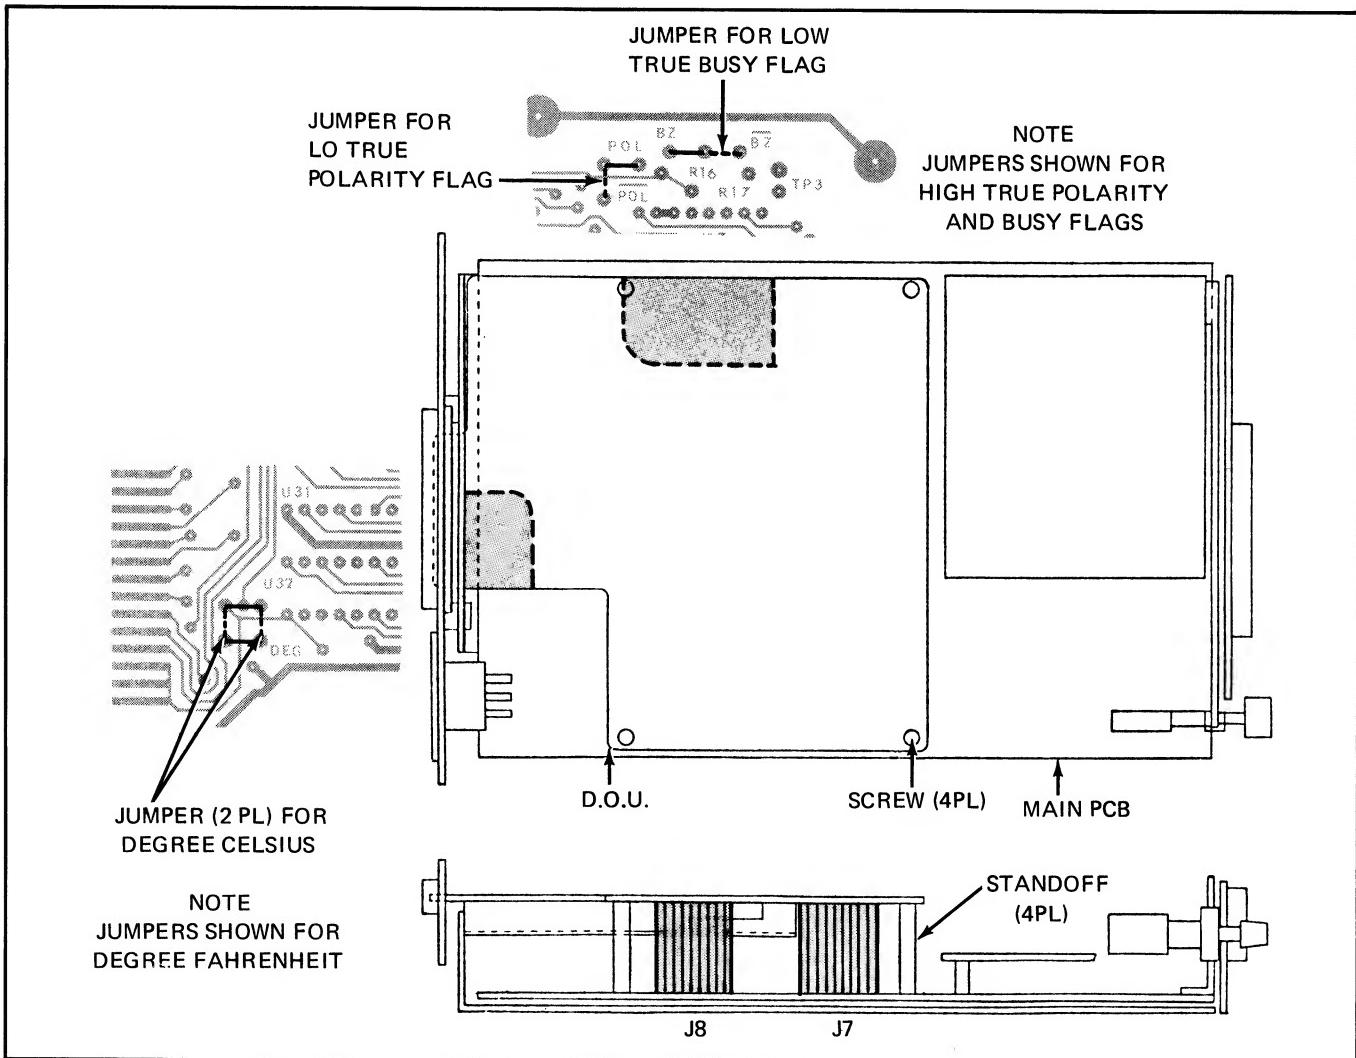

Figure 6-9. DOU INSTALLATION ILLUSTRATION
6-69, Use the following procedure to install the Digital Output Unit in the 2100A. Refer to Figure 6-9 for item locations:
- c. Position the DOU on the Main PCB as shown in Figure 6-9.
- e. Position the AOU on the main pcb as shown in Figure 6-9.
- i. Connect the five color-coded leads from the AOU rear panel to the AOU pcb as indicated in Figure 6-9.
- g. Adjust R24 (Internal Offset) on the AOU for $0 \pm 50 \mu V$ on the DVM. See Figure 6-9. The DVM should be on the lowest dc voltage range with filter out.